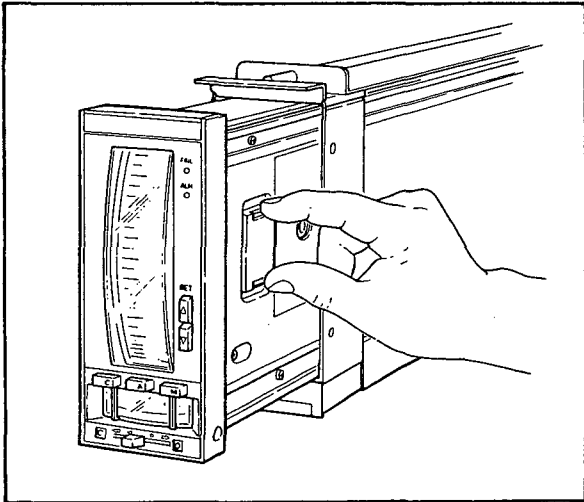

Figure 6-3-5. Replacing Data Backup Battery.
- (2) Install a new battery and fit the battery cover securely in place. (See Figure 6-3-5).
- (3) Insure that the ALM lamp has stopped flashing.